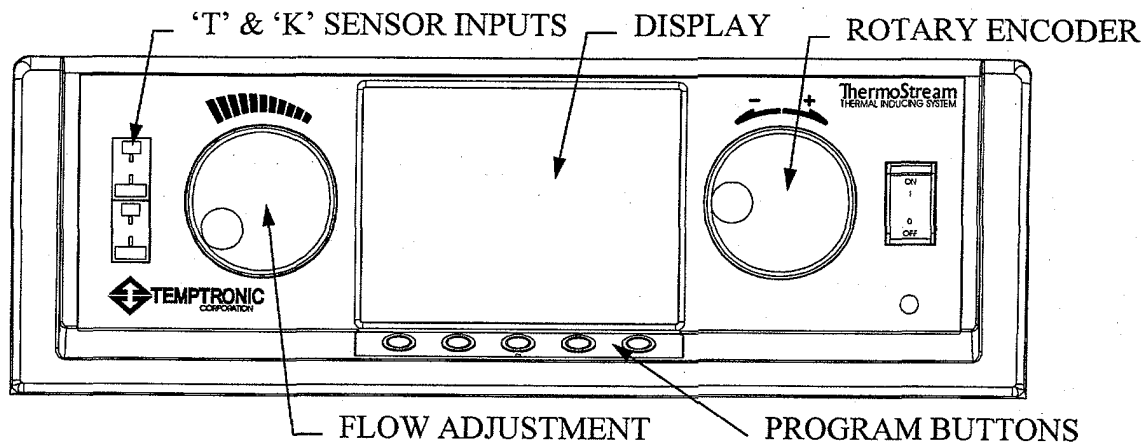

Figure 3-1 User Interface
The TP04100A User Interface is located on the controller cabinet front panel and has three main components (see Figure 3-1, above): 1) the Graphical Display Screen, 2) five (5) Program Buttons located below the display screen, and 3) the Rotary Encoder located to the right of the display screen.
The *FLOW* selection allows the operator to toggle the air flow of the Thermal Wand ON and OFF without temperature control. The first press of the *FLOW* program button turns the air flow ON, the second press turns it OFF. This allows the operator to verify and/or adjust system air flow for temperatures of +33.1 °C through +225 °C by using the Flow Adjustment knob located to the left of the Graphical Display Screen (see Figure 3-1 User Interface). Complete operation and use of the Flow Adjustment valve is discussed in the *TP04100A Interface & Applications Manual*.